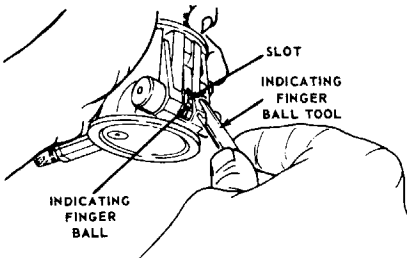

FIGURE 12
1. See Figure 12. Insert Indicating Finger Ball Tool into Slot under Ball and pry upward to remove Ball. Ball will stay in Tool.